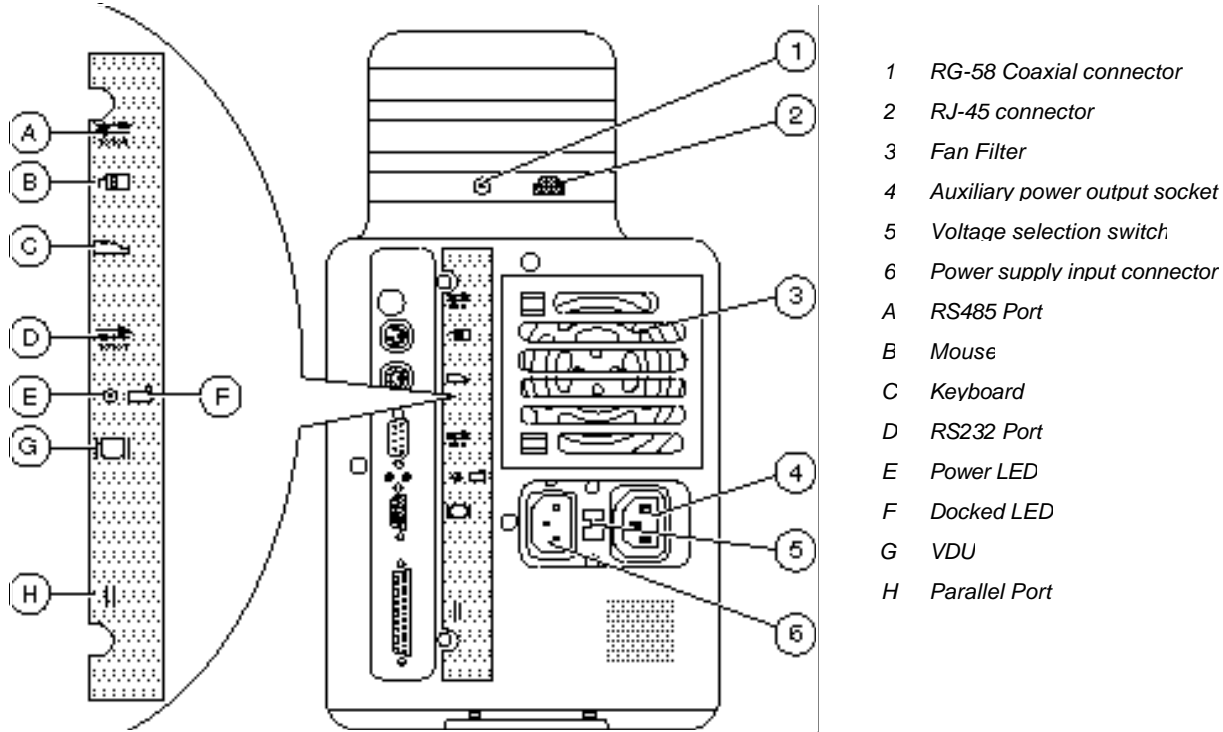

Figure 5 Connecting the Power Cord and Accessories
5. Plug the printer interface cable into the parallel or RS232 port as required (*see Figure 5*), on the Docking Station and route it through the cable entry holes into the cart (*see Figure 6*).
6. Plug the printer power cord into the auxiliary power output socket on the Docking Station (*see Figure 5*), and feed it through the cable entry holes into the cart.
2. Connect the printer interface cable to the parallel or RS232 port (*see Figure 5*) on the Docking Station.
Plug the RJ-45 connector on the UST/STP cable to the RJ-45 connector on the docking station (*see figure 5*). Insert the other end of the UST/STP cable into a 10 BASE-T hub. The maximum length of the UST/STP cable is 100m.
Plug a T-connector (not supplied), into the RG-58 connector on the docking station (*see figure 5*). Ensure that both ends of the T-connector are connected to the coaxial cable or, if the docking station is at the end of the network cable segment, attach a 50-Ohm terminator (not supplied), to one end of the T-connector.